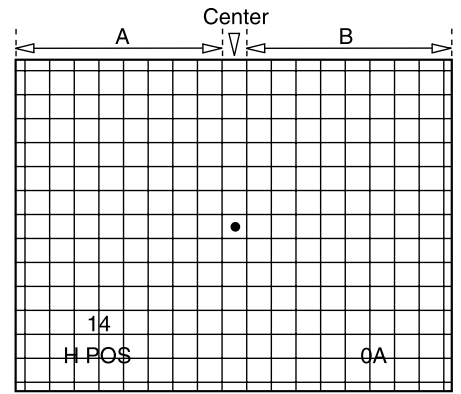

Fig. 1-1
- Use the volume keys on the jig remote controller to adjust the dot mark in the centre of crosshatch screen to the exact centering position by allocating an equal number of squares on the left and right side of the dot. $A=B$ (Fig. 1-1)